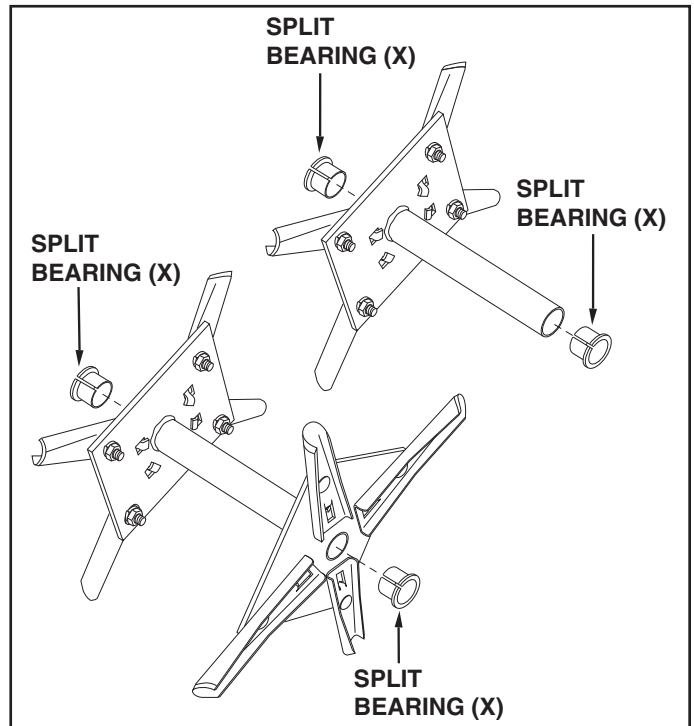

FIGURE 2
2. Push split plastic bearings (X) into both ends of all single and double spool assemblies. See figure 2.